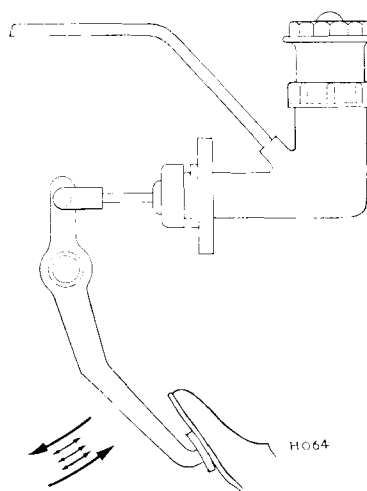

Fig. 3. Pedal operation
4. Operate the pedal with a succession of rapid long and short strokes as follows: Push the pedal through its full stroke, followed by two or three short rapid strokes; then allow the pedal to return to its stop unaided (foot removed) Fig. 3. Observe the fluid being discharged into the glass container and when all bubbles have ceased to appear close the bleed screw on the downward stroke of the pedal. Securely tighten the bleed screw (4 to 6 lb. ft. 0.55 to 0.83 kg. m.) and remove the tubing from the nipple.
To Refit (Figs. 3 and 5)